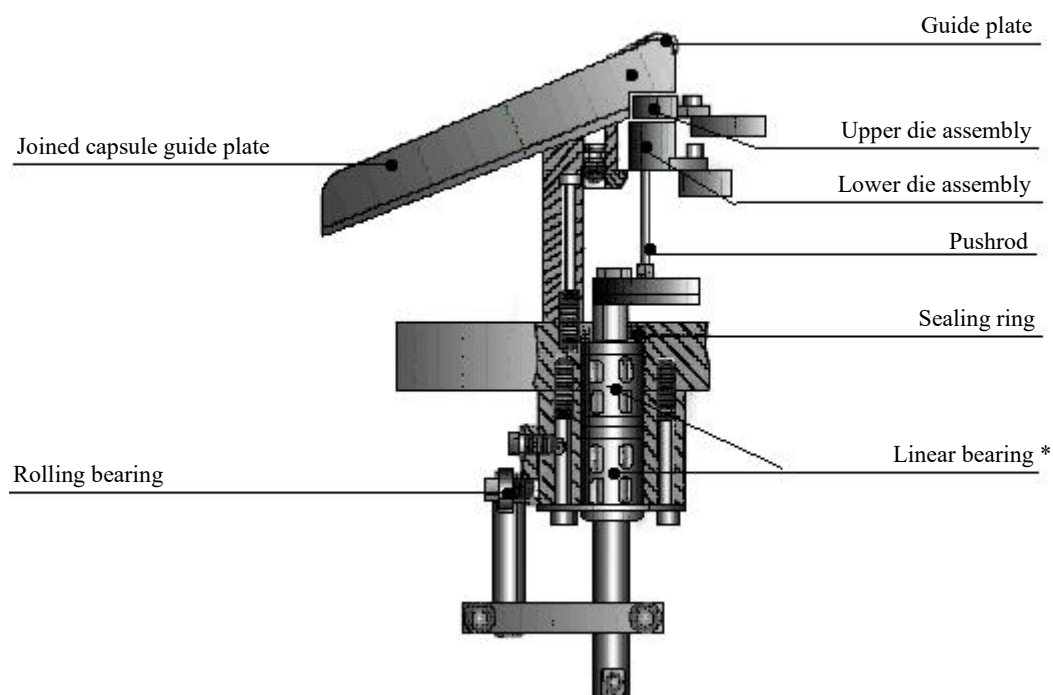

Fig. 28 Leading-out Unit for Joined Capsule
5.2.11 Adjustment of leading-out unit for finished product (refer to Fig. 28, 29)